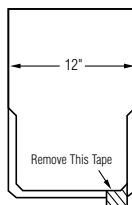

Figure 18-15: Shangle Ridge
- Before nailing, be sure to remove the protective tape from the sealant between the cap's two layers (see Figure 18-15).